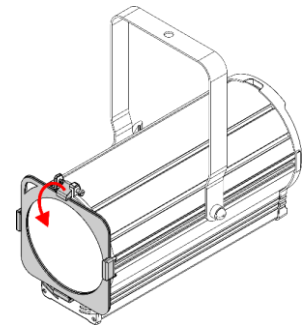

Fig. 13
- 04) Pull the **color frame clip (02)** downwards to release the **spring-loaded screw (01)** (see Fig. 13). The color frame will be locked in position.
- 05) Secure the color frame to the overhead structure with an appropriate secondary attachment, for example a safety cable. Put the safety cable through the **safety eye (18)** of the color frame. See **4.3. Rigging** on page 13 for more information.